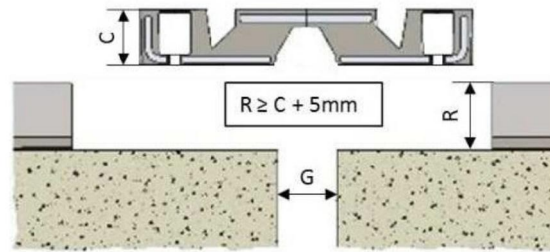

Figure 1
- Record and verify the dimensions of the existing concrete support, pavement thickness (R), new joint thickness (C), and gap width (G) (refer to Figure 1). Submit the necessary remedial measures for engineer approval if any factors hinder the proper functioning of the joints.